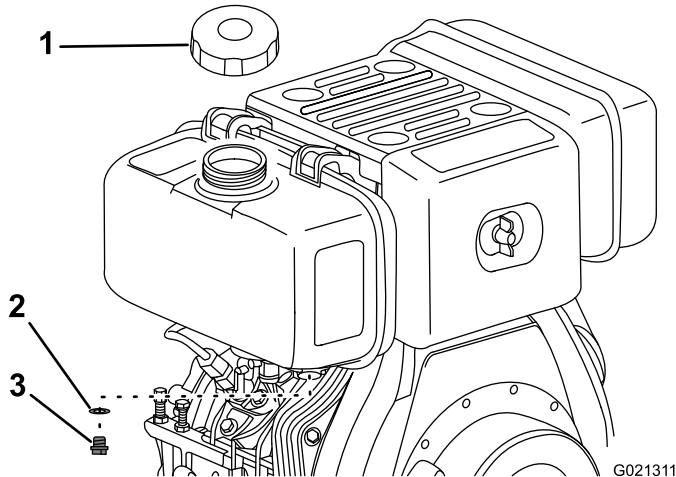

Figure 40
3. Remove the fuel cap (Figure 40).
4. Remove the drain plug and gasket to drain the fuel (Figure 40).
10. Install the drain plug with a new gasket (Figure 40).